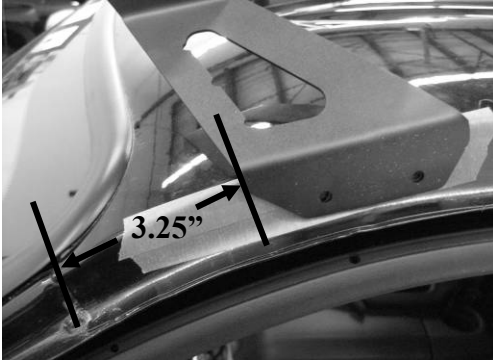

Figure 1
7. Place tape where bracket will be mounted and mark drill holes with a marker. See **Figure 1** for bracket mounting location. (**50" curved brackets are shown in Figure 1. 60" curved bracket project outwards away from vehicle, whereas 50" curved bracket project inwards toward vehicle**)